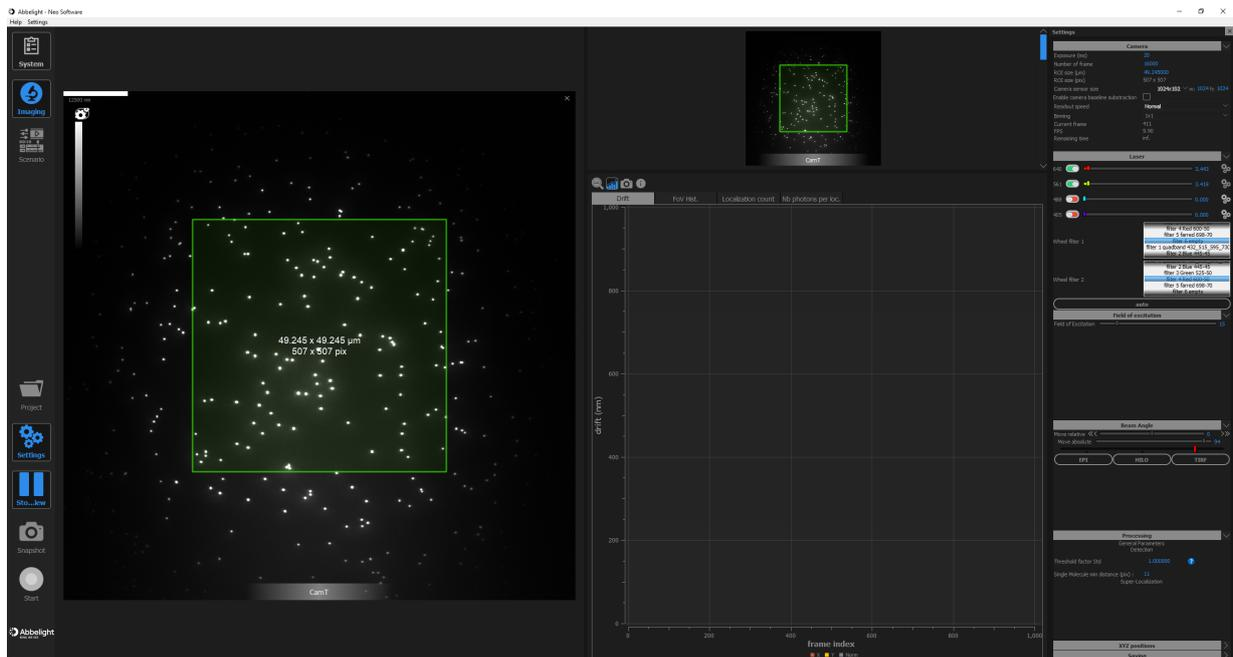

Figure 15: Setting up the beam angle for epi-, HILO, or TIRF.
- Set the desired illumination mode by clicking on “EPI,” “HILO,” or “TIRF” under “Beam Angle” (Fig. 15). To tweak the incidence angle, use the arrows in “Move relative,” or drag the slider.